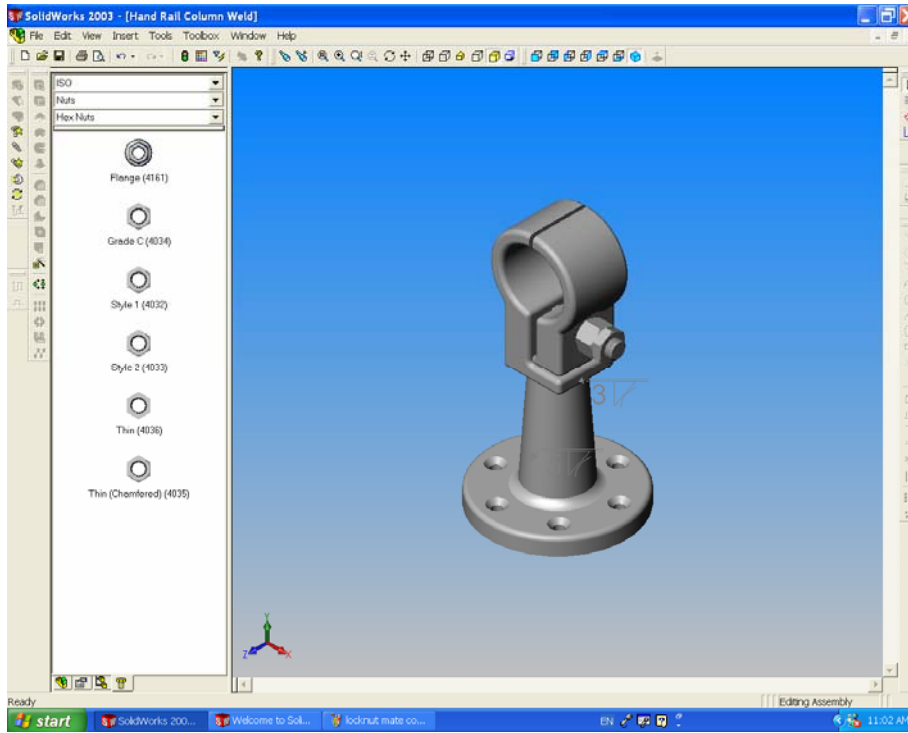

Figure 12
13. The assembly is now complete. See Figure 12. **SAVE YOUR WORK!!**